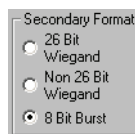

Figure 14-18: Enroll Cards - Secondary Format
- Once the Enroll Both radio button has been selected in the “Numbers” field, the “Secondary Format” field becomes active. In the “Secondary Format” field, click on the radio button that corresponds to the format of the Secondary ID (see Figure 14-18).